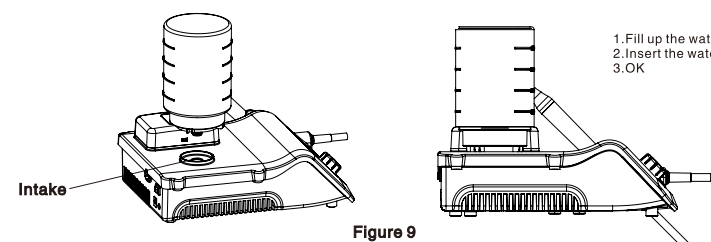

Figure 9
- Fill up appropriate amount of purified water into the water bottle , and then insert the water bottle of the main unit .(Figure 9)